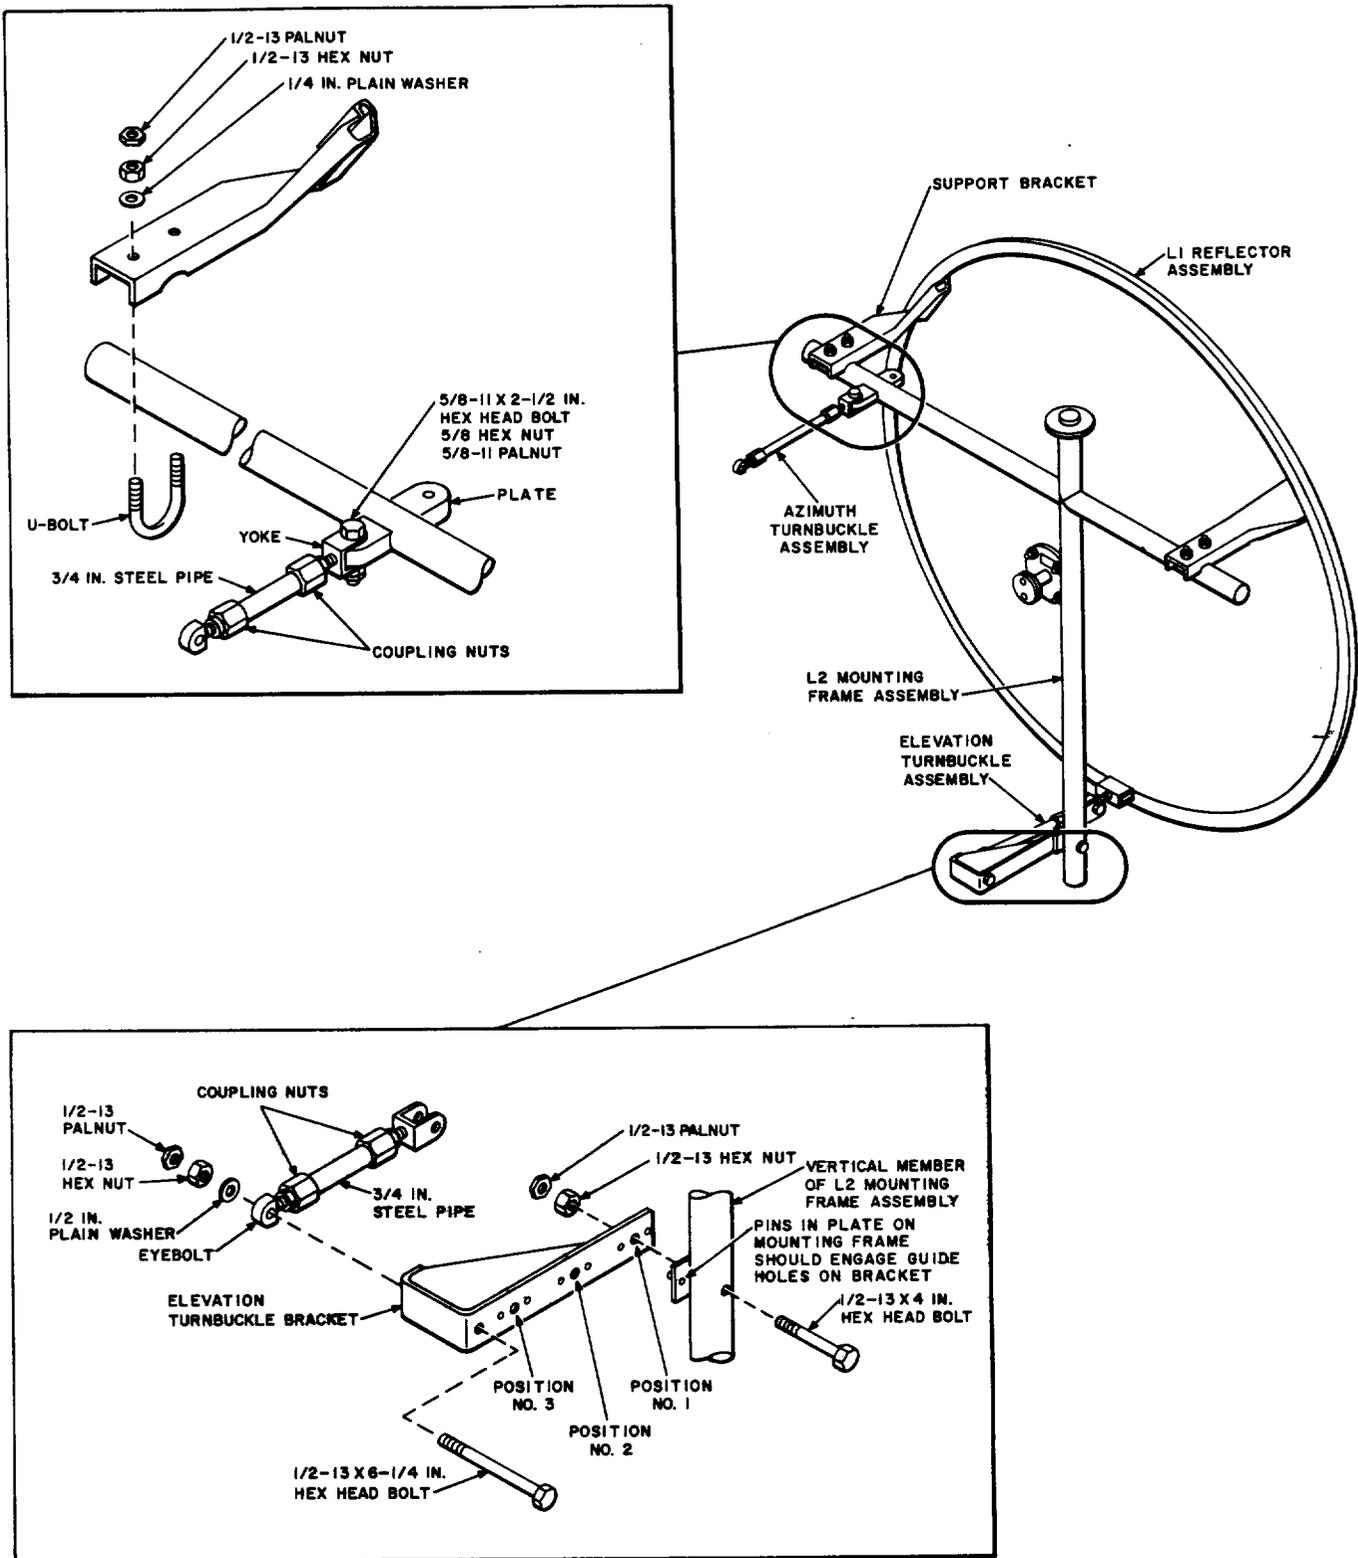

Fig. 4—Azimuth and Elevation Turnbuckle Assemblies
4.07 The azimuth adjustment turnbuckle assembly (Fig. 4) is attached to the horizontal arm of the antenna mounting frame assembly. This turnbuckle normally is supplied with a pipe length of 10 inches for a range of azimuth adjustment as shown in Table A. If a greater azimuth range is necessary, a longer pipe length may be substituted for the 10-inch length. Table A includes the azimuth adjustment possible with a 20-inch pipe length. A 20-inch pipe is supplied with the elevation adjustment turnbuckle and may be used with the azimuth turnbuckle if required.
4.09 The elevation adjustment turnbuckle assembly (Fig. 4) is attached between the lower rim of the antenna reflector and the elevation turnbuckle bracket on the mounting frame assembly. This
three positions to vary the elevation adjustment range as shown in Fig. 4. Table B includes adjustment ranges possible with different bracket positions.
4.14 The L2 mounting frame assembly is reversible, ie, it may be used with the vertical member either to the right or to the left of the center of the antenna. Local supervision shall review the antenna orientation plan to determine if the reflector is mounted on the correct side of the mounting frame assembly. If the position of the reflector must be changed, the following procedures should be used, (See Fig. 4):